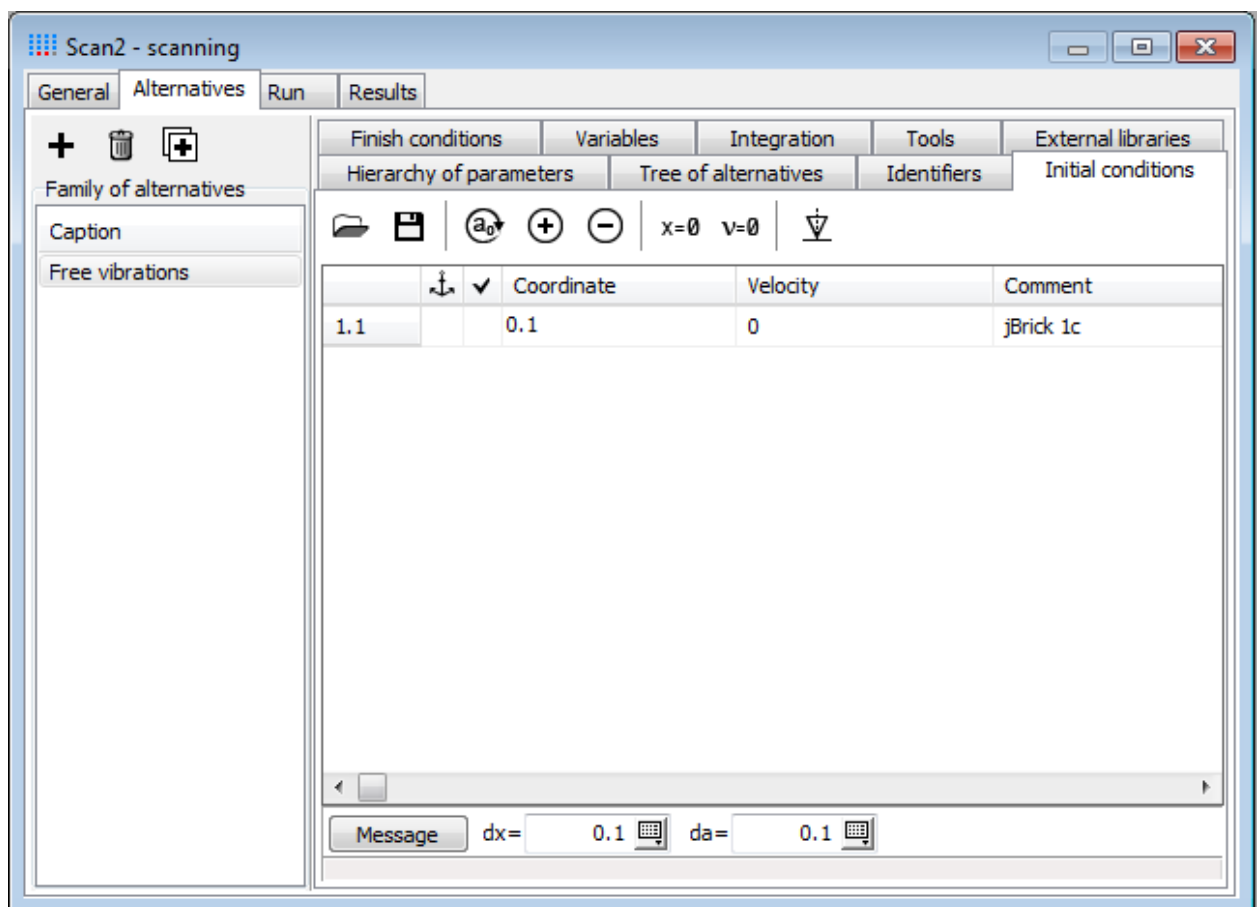

Figure 2.7. Initial conditions
2. Set the **Coordinate** | **1.1** to **0.1**, see Figure 2.7.